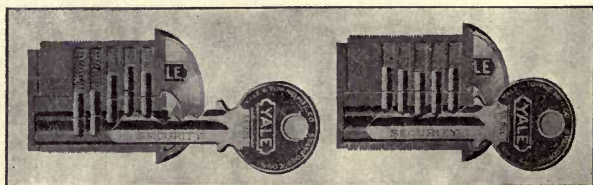
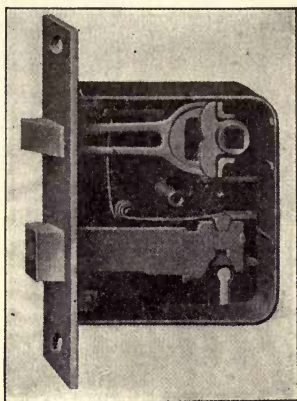

FIG. 271.—A YALE LOCK
FIG. 272.—DOOR LOCK AND LATCH
4. Name all the different forms of simple machines you can find in the action of the Yale lock (Fig. 271); the lawn mower; the door lock and latch (Fig. 272).